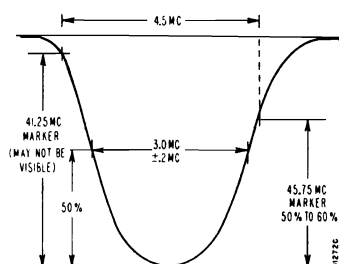

Fig. 5 IF CURVE
4. Check curve obtained against ideal response curve, figure 5.